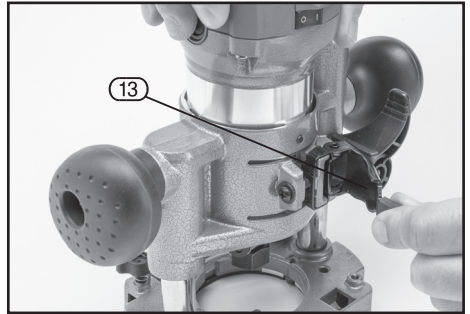

FIG.2
Tighten the tool lock lever (13) to lock the tool body (Fig.2).